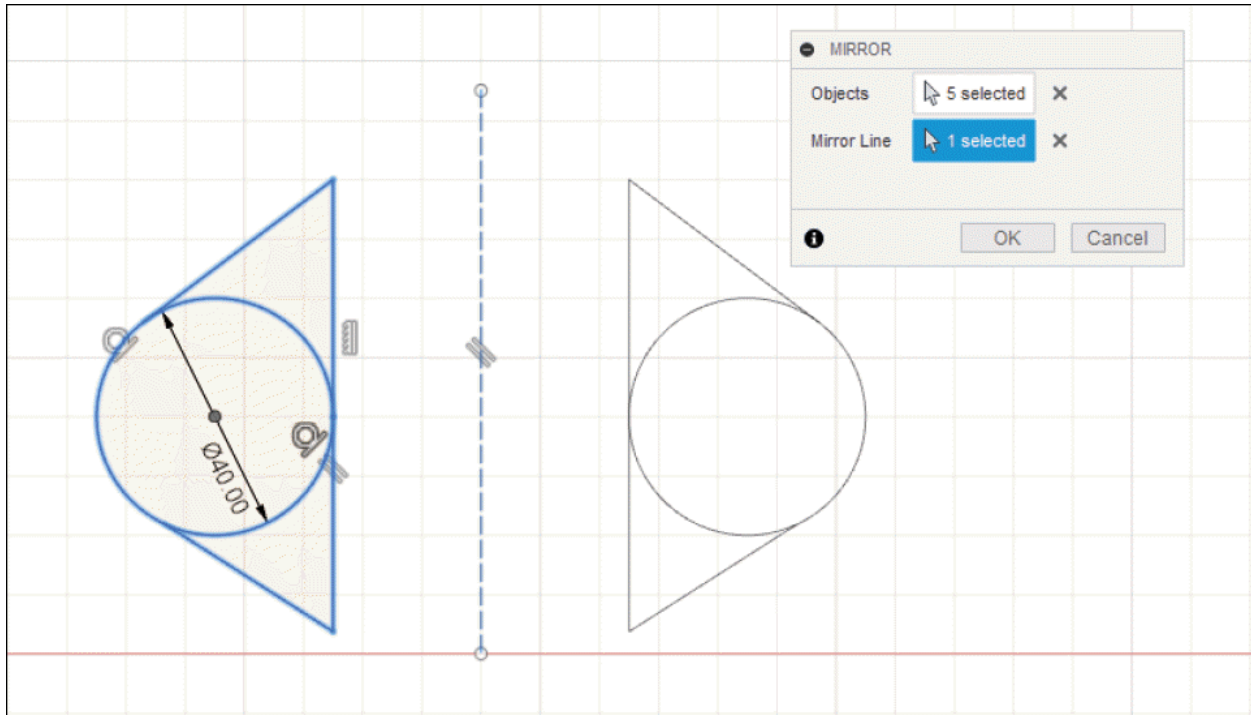

Figure-54. Procedure of mirror
- Click on **Select** button of **Mirror Line** section and select the reference line for creating mirror copy. The preview of mirror will be displayed; refer to Figure-54.